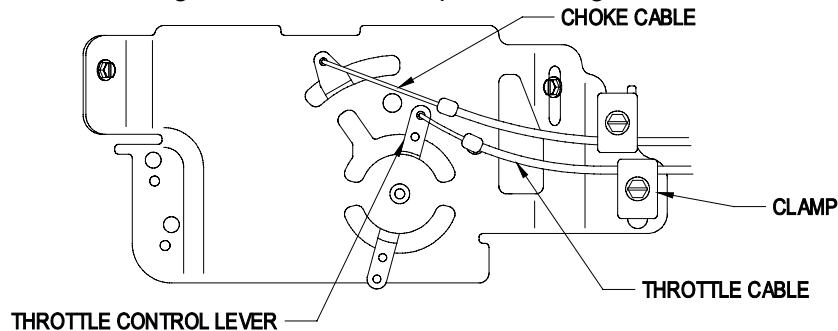

FIGURE 4
- b) Attach inner wire of the throttle cable to the top hole in the throttle control lever as shown in Figure 4.